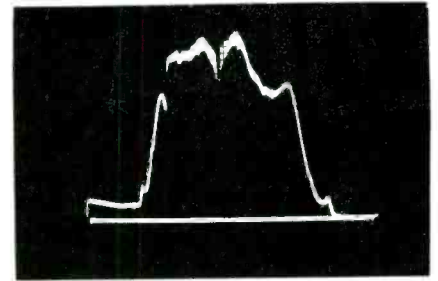

Fig. 5—True image is not obtained in this waveform.
A. This type of difficulty is illustrated in Fig. 5. It is caused by regenerative instability, either in the video amplifier or in the test set-up.